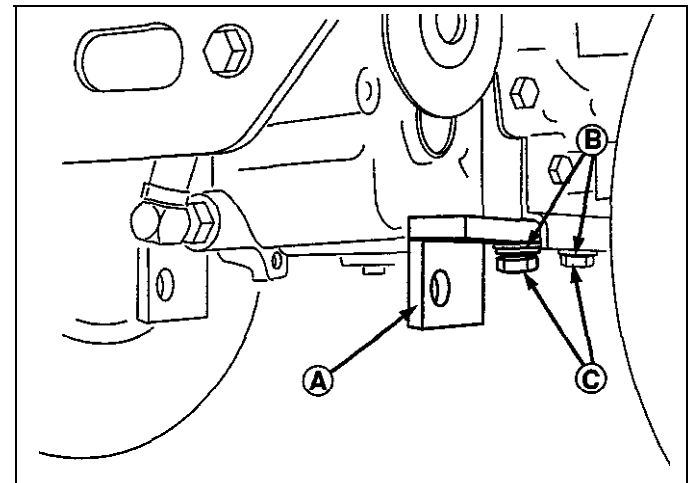

Figure 5. Rear Hitch Brackets
2. Attach the rear hitch brackets (A, Figure 5) to the drawbar and transmission with the 5/8-11 x 2 cap screws (C) and washers (B) provided.
*NOTE: During initial installation do not tighten the cap screws (C, Figure 5) securing the rear hitch mounting brackets until the attachment is completely installed.*
*NOTE: At this point during initial installation tighten the capscrews (C, Figure 5) securing the rear hitch mounting brackets. This is only necessary when installing the attachment for the first time.*